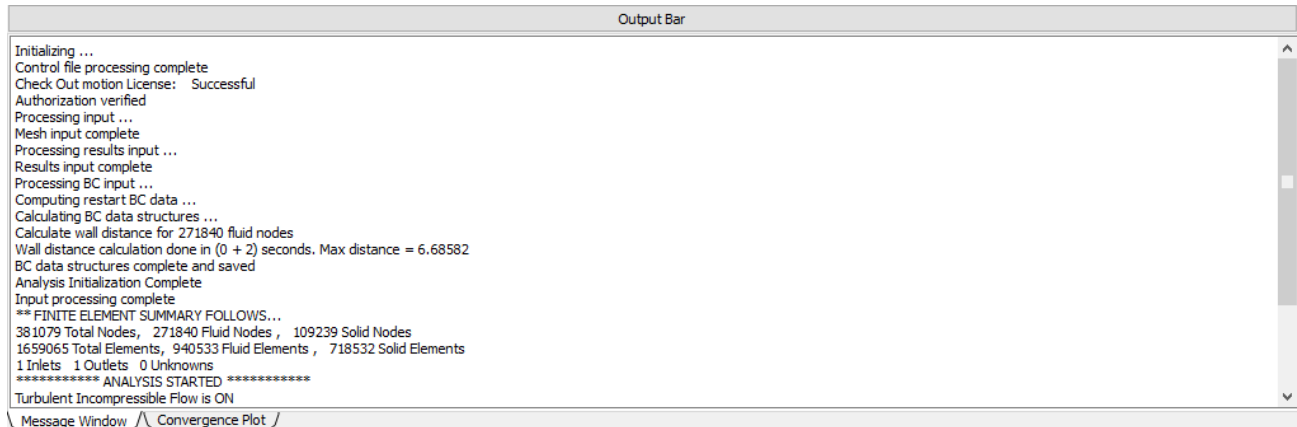

Fig. 37
Step 5. In the Output Bar the mesh starts calculating, **Fig. 37**.